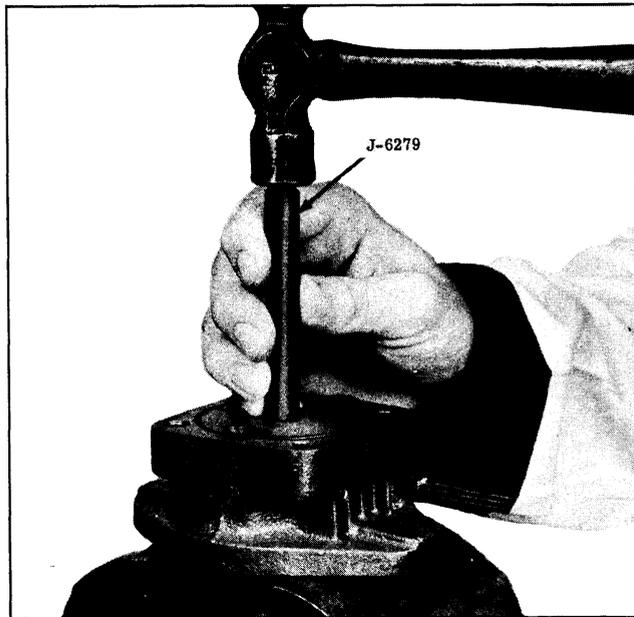

Fig. 5-76 Needle Bearing Removal
10. If needle bearing replacement is necessary, drive needle bearing out of pump body using Tool J-6279. (See Fig. 5-76)